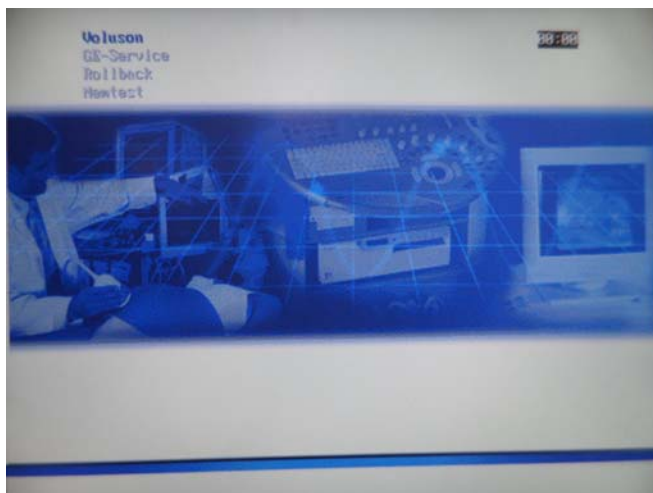

Figure 3-15 Boot screen
- 2.) Afterwards the “Boot Screen” is displayed. (**Voluson** is highlighted, Figure 3-15 below).